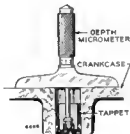

FIGURE 3-14 DEPTH MICROMETER MEASUREMENT
1. Install pump tappet in its recess and position flywheel on port closing mark (PC) of compression stroke.
2. Using a depth micrometer, measure distance from pump mounting pad on crankcase to tappet center. See Figure 3-14.